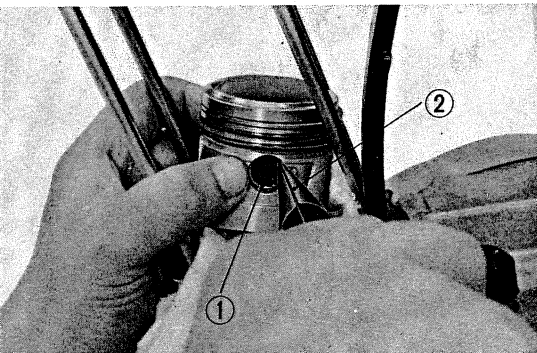

Fig. 37 Piston pin removal
- 12) Remove piston pin clip and piston pin, and then separate the piston from the connecting rod. (Fig. 37)